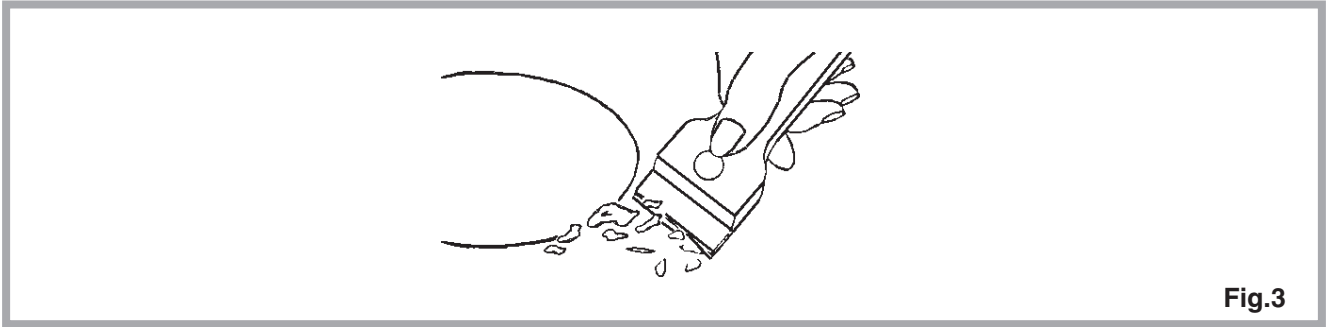

Fig.3
**N.B.** - When one makes use of heating elements, we advise receptacles with flat bottom (Fig. 3) having same diameter or lightly higher than that of the hot area.
### Maintenance (Fig. 3)